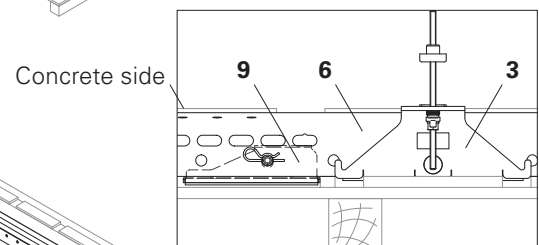

Fig. B1.09a
5. Mount Support Plates VD (9) in the fourth hole of the Steel Waler SRU U120 (6) using 1x Fitting Pin \varnothing 21 x 120 (48) in each case, and secure with Cotter Pins 4/1 (47). (Fig. B1.09a)